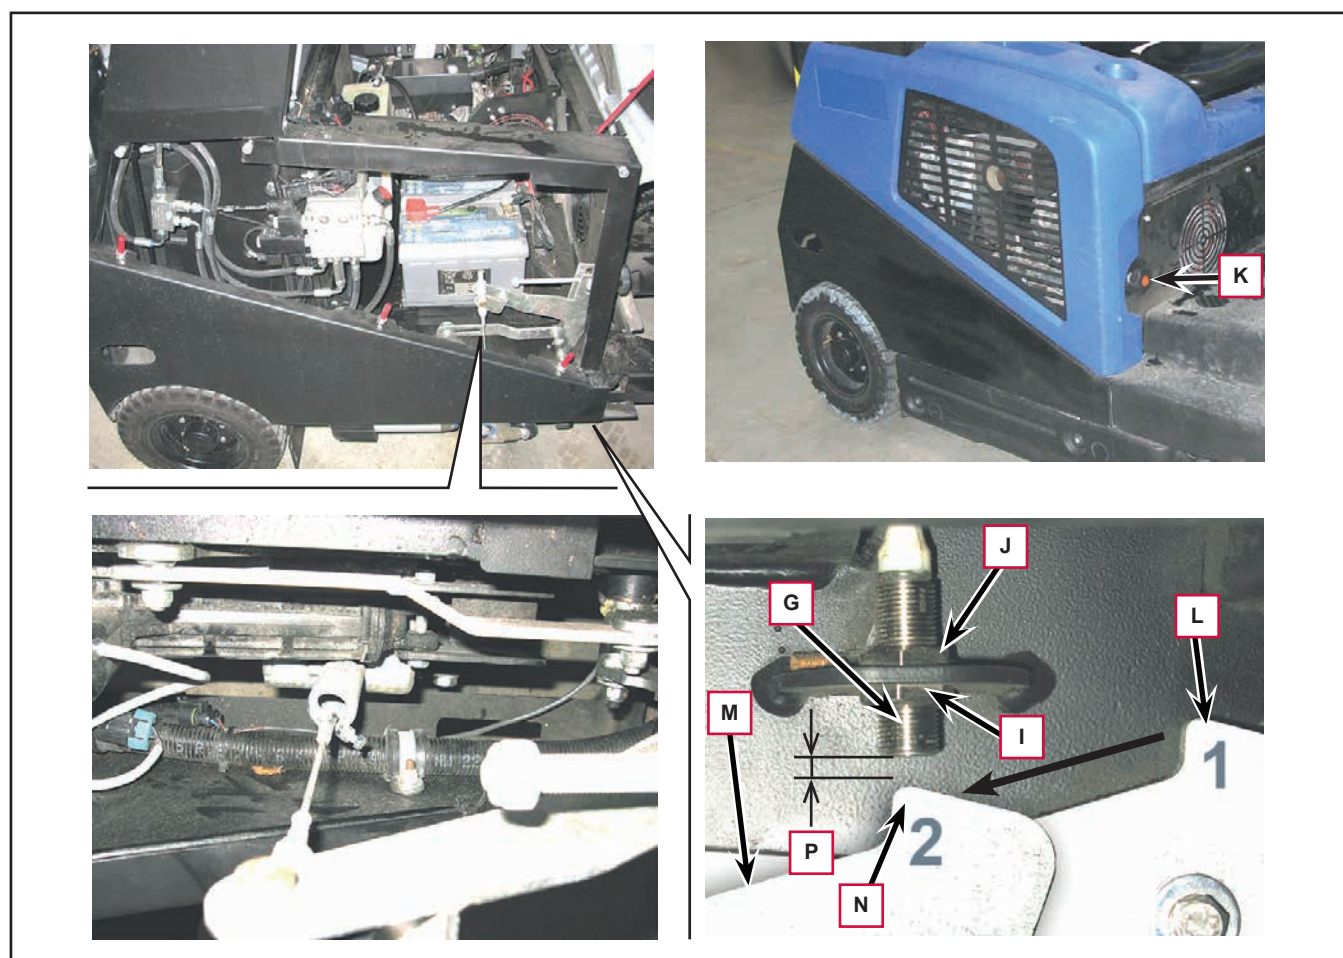

Figure 24
13. Use the knob (K, Figure 24) to lower the main broom until the end (L) of the lever (M) moves under the sensor (G), in position (N).
14. In this position, insert the sensor (G), the nut (J) and the locknut (I), then adjust the sensor (G) to the distance (P) of 4-5 mm; finally tighten the locknut (I) onto the nut (J).
15. Using the knob (K), raise the main broom, returning it to roughly its initial position.